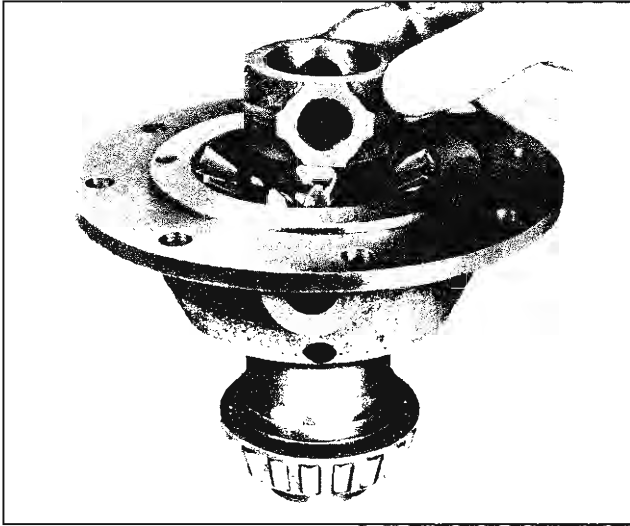

Fig. 4-36 Removing Differential Ring from Case
10. Remove differential pinion shaft ring from case (Fig. 4-36).